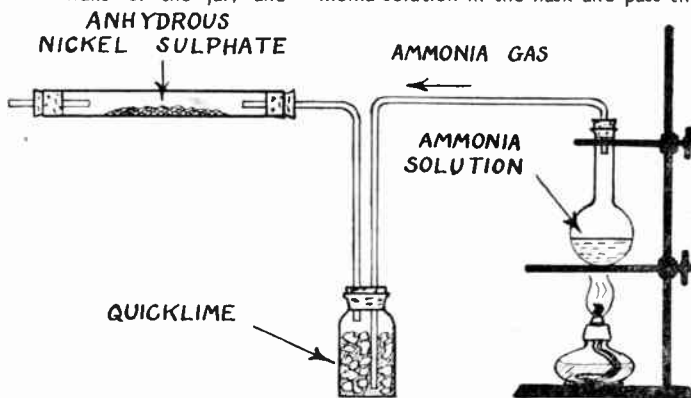

Fig. 2
Place this in a dry horizontal glass tube, as shown in Fig. 2. Generate ammonia gas by warming a little ammonia solution in the flask and pass the
The top view Fig. 1 and side views Figs. 2 and 3 clearly show in detail the method of making the gadget. Commence by making the pendulum rod, which is of $\frac{1}{8}$ in. diameter dowel rod firmly glued into the block marked (A). Cut this block of hardwood $1\frac{1}{2}$ ins. long, 1 in. wide and $\frac{1}{2}$ in. thick, and taper off as shown in Fig. 3. Drill the hole about $\frac{1}{8}$ in. deep and make it a tight fit, and, besides gluing, it can be fixed with a fine panel pin as it will have to bear a considerable weight.
Drill a hole about $\frac{3}{16}$ in. diameter in the centre of each end, and then cut as shown in Fig. 2, leaving a nice smooth curve for the knife edge to work on. The piece can now be screwed on to block (A), at the same time fixing on strip (B). This is just a right angle piece of brass 2 $\frac{1}{2}$ ins. long, $\frac{1}{2}$ in. wide and of 16 gauge thickness. The top portion is about $1\frac{1}{2}$ ins. long as shown in Figs. 1 and 2.